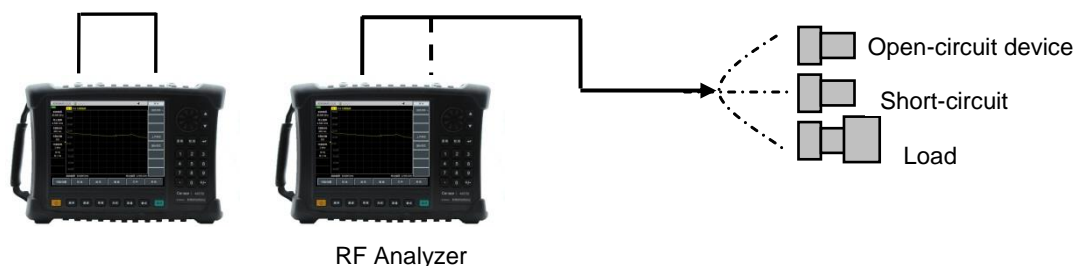

Figure 16-5 Block Diagram of Load Matching Test
- b) Press 【Cal】 [Cal Kit] to select the correct calibration kit, then press 【Cal】 [M Cal] [Full 2 Ports] [Reflection], connect the N-type calibration cable at the test Port 1 as shown in Figure 16-5, connect the OPEN, SHORT and LOAD at the end of the cable successively to complete the measurement of the standard kits such as the OPEN, SHORT and LOAD of the port P1; connect the OPEN, SHORT and LOAD successively at the test Port 2, and complete the measurement of the standard kits such as the OPEN, SHORT and LOAD of the port P2; and finally, press the [OK] key to complete the reflection calibration of full 2 ports;